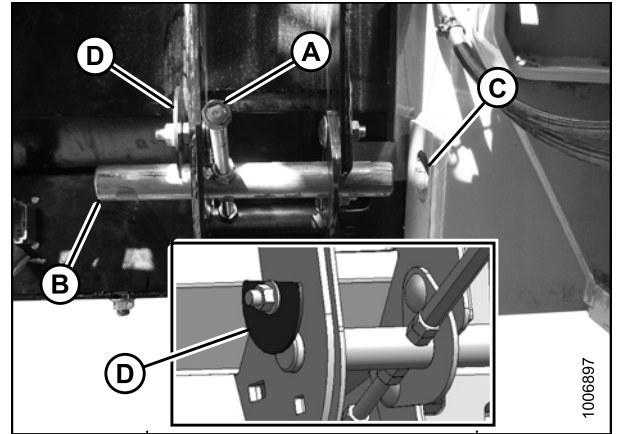

Figure 5.28: Feeder House Lock
11. Move support channel (A) according to measurement in Step 7, page 63 to achieve proper alignment of locking pin and feeder house receptacle. Refer to Figure 5.28: *Feeder House Lock*, page 63.